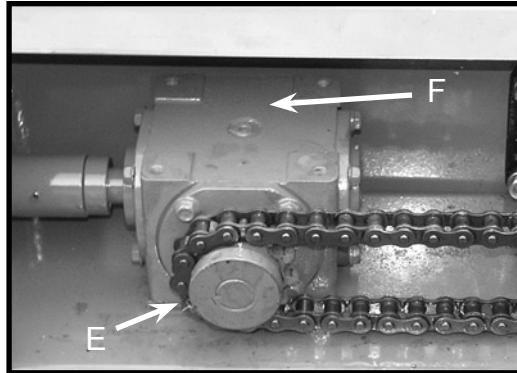

Figure 17-2
- E. Lubricate drive chains with engine oil every 100 loads or once a month- One (1) Figure 17-2.
- F. Change oil once a year, fill to the check plug with SAE 80-90 gear oil. If no check plug, fill until gears are coated with lubricant. Figure 17-2, 17-3